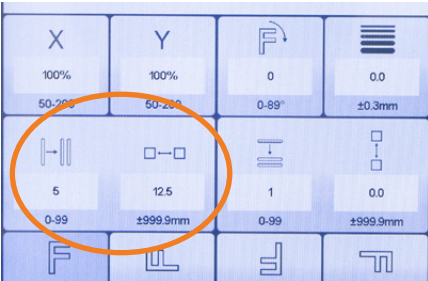

Figure 84
- To repeat the design horizontally, use the first and second icon on the second row of the Design Settings menu. The first icon is used to select the amount of designs you wish to repeat, and the second icon is used to select the space in between each design. **See Figure 84.**